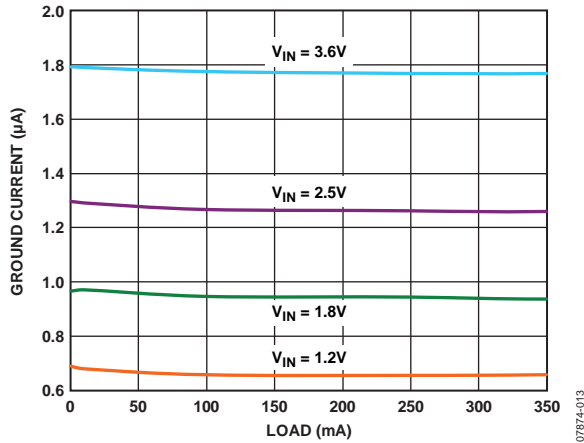

Figure 19. Ground Current vs. Load Current
The major source for ground current in the ADP190/ADP191 is the 4 MΩ pull-down on the enable (EN) pin. Figure 19 shows typical ground current when $V_{EN} = V_{IN}$ and V_{IN} varies from 1.1 V to 3.6 V.